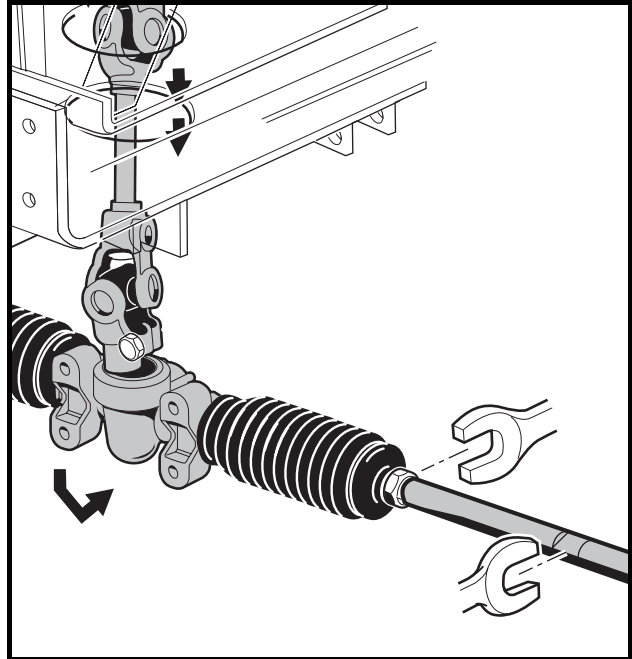

Figure 7-10 Drag Link
2. Remove both drag links (**Figure 7-10, Page 7-7**).